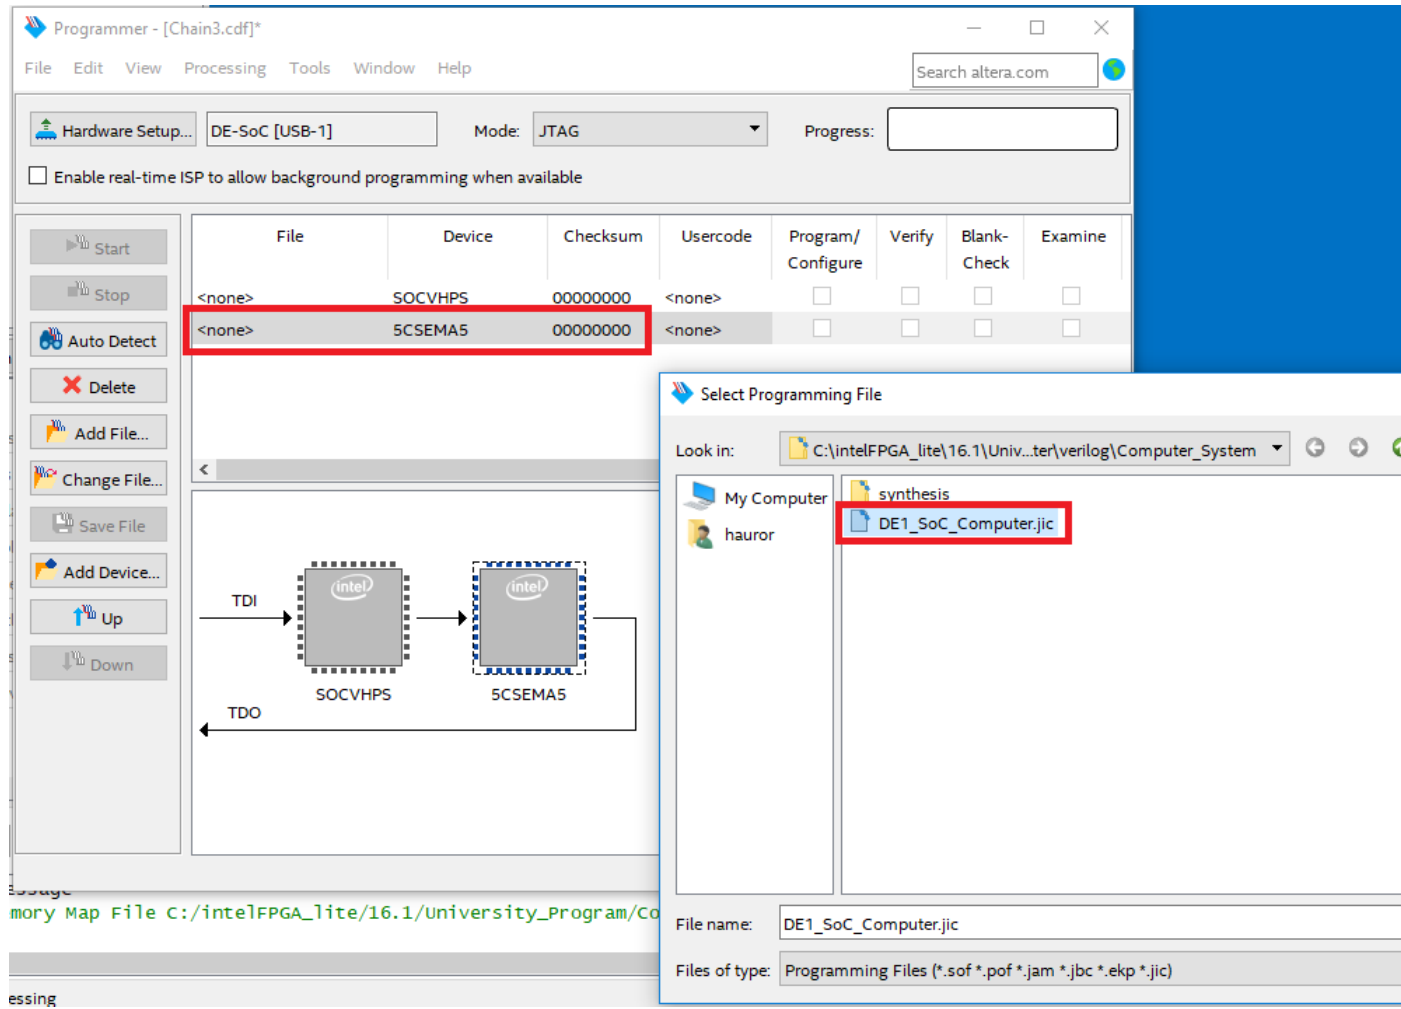

Figure 10: Program the JIC file - Step 4
4. Next, double-click the FPGA device (5CSEMA5), and from the window that opens add the .jic file created in the previous section. Refer to Figure 10.